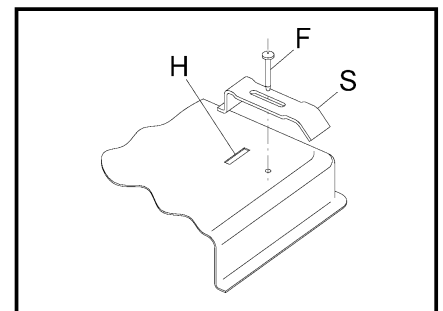

FIG. 6
- Remove the strip of protective paper from the seal. Insert the hooks "S" into their relative housings "H" on the hob and place into the prepared hole in the cabinet. Lock in place with the relative fixing screws "F" (see fig. 6).